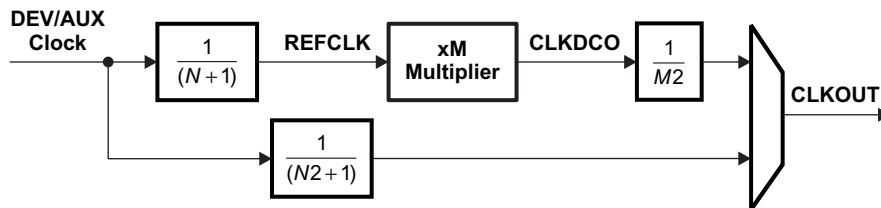
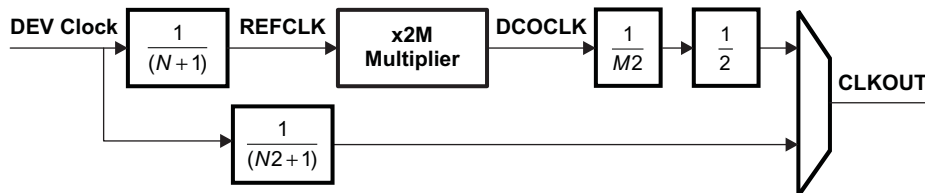

Figure 7-17. Top-Level PLL Simplified Block Diagram
Figure 7-18. PLL\_ARM Simplified Block Diagram
The device contains 10 top-level PLLs, and embedded PLLs (within the ARM Cortex-A8, PCIE, SATA, and CSI) that provide clocks to different parts of the system. Figure 7-17 and Figure 7-18 show simplified block diagrams of the Top-Level PLL and PLL\_ARM. In addition, see the System Clocking Overview (Figure 7-7) for a high-level view of the device clock architecture including the PLL reference clock sources and connections.
(1) This parameter describes the limits on the programmable multiplier value M. The multiplication factor for the PLL\_ARM is equal to 2 \* M (also see Figure 7-18).
(2) The PLL Multiplier supports fractional values (up to 18-bits of fraction) except when the PLL Multiplier is < 20 OR > 2045.